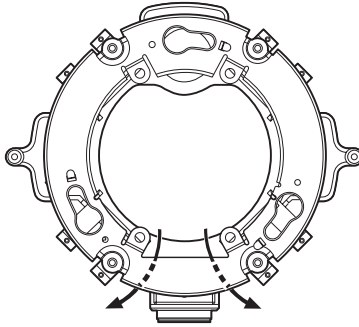

Figure 11. Routing the Cables
6. Route the cables between the camera attachment and the mounting base (refer to Figure 11). Cable routing as shown in Figure 11 is an example. Cable routing depends on the installation environment.